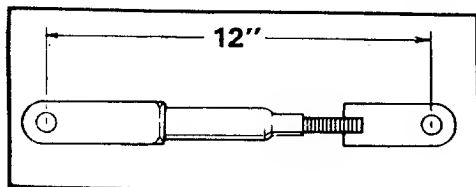

Figure 7
10. Assemble and adjust the two halves of the center adjustment arm until it is 12 inches long. (See figure 7.)